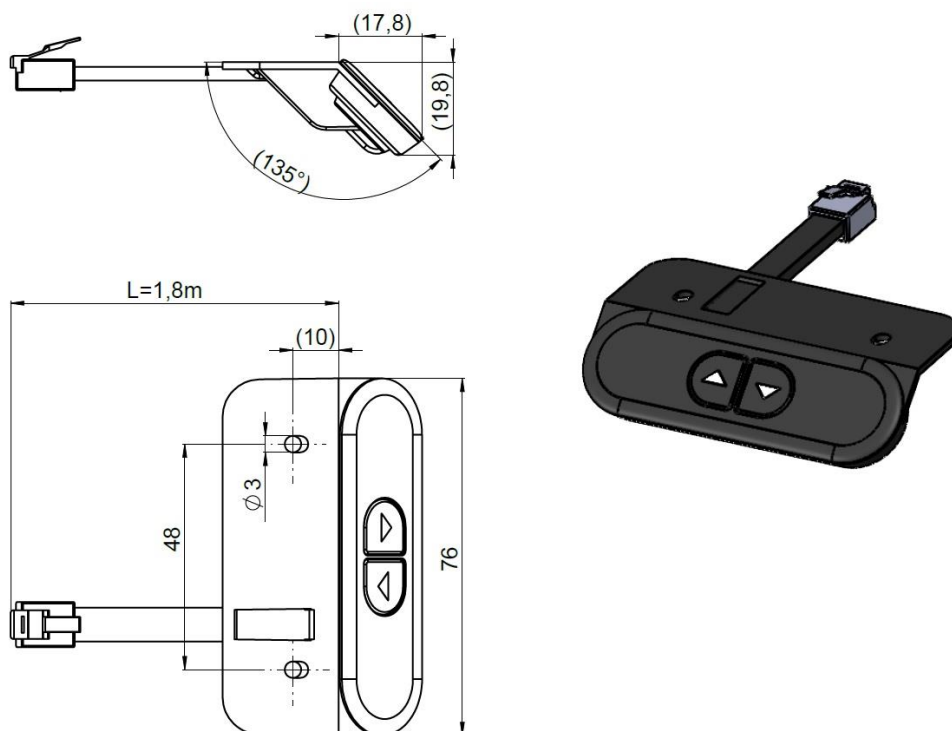

Figure 16 Dimensions of the Up/Down manual switch LM2LCDP
- ➔ Connect the manual switch LD6LC (only possible with memory manual switch LD6LC, see Figure 16) with the Sync-Y-Adapter (Figure 20 connection No. 3)